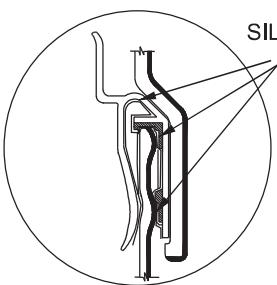

FIGURE 6
3. Apply the mildew resistant bathroom silicone caulk inside the snap fit extrusion throughout the entire length. This has to be applied to all six snap fit extrusions on the product. See Figure 6.